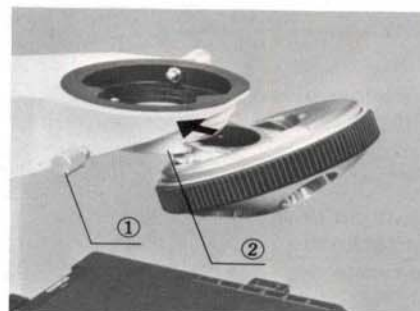

Fig. 3
- 1) Loosen the nosepiece clamping screw ①. (Fig. 3)
- 2) Aligning the nosepiece dovetail slide to the mounting block ②, push in the nosepiece slowly all the way.